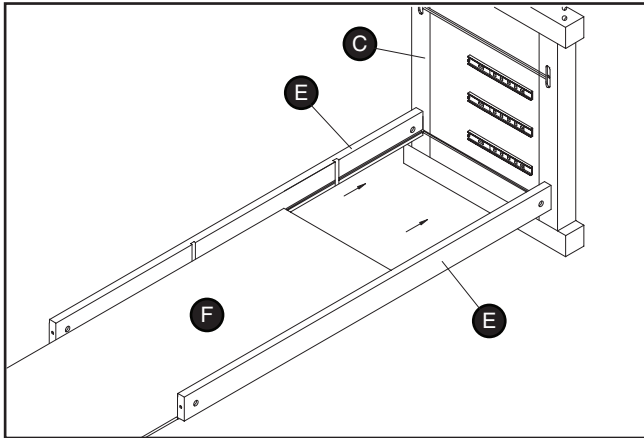

Figure 13. Lower panel installation.
7. Insert the lower panel (F) into the slots of the two lower cross braces (E), and into the groove of the side leg (Figure 13).